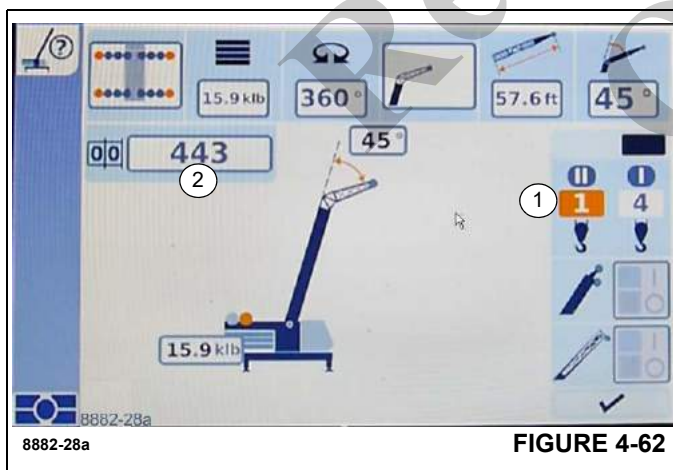

FIGURE 4-62
- Select and confirm the symbol (1), (Figure 4-62) – arrows on the left and right are displayed.
The display (2), (Figure 4-62) shows the corresponding RCL code.